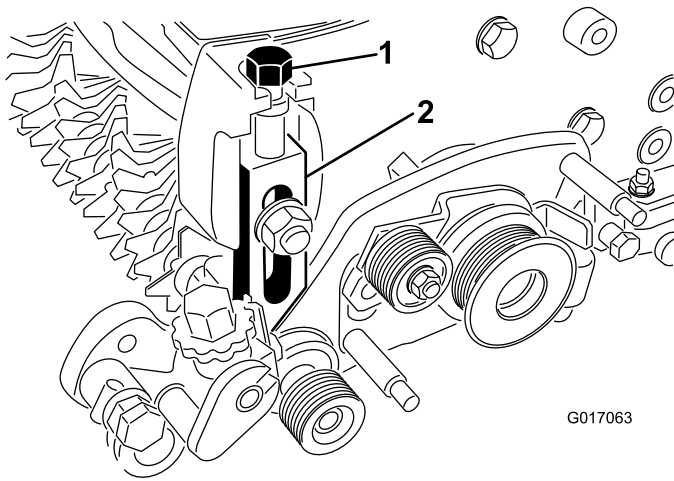

Figure 10
21. Thread the height-of-cut adjusting screw into the top of the left-hand adjuster arm assembly (Figure 10).
22. Install the left-hand adjuster arm assembly to the cutting unit side plate using the existing plow bolt, nut, and a new washer. Make sure that the rod end of the height-of-cut arm assembly slides into the bushing in the hole in the groomer drive assembly (Figure 10).
25. Thread the height-of-cut adjusting screw into the top of the right-hand adjuster arm assembly (Figure 10).
27. Install the right-hand adjuster arm assembly to the cutting unit side plate using the existing plow bolt, nut, and a new washer (Figure 10).